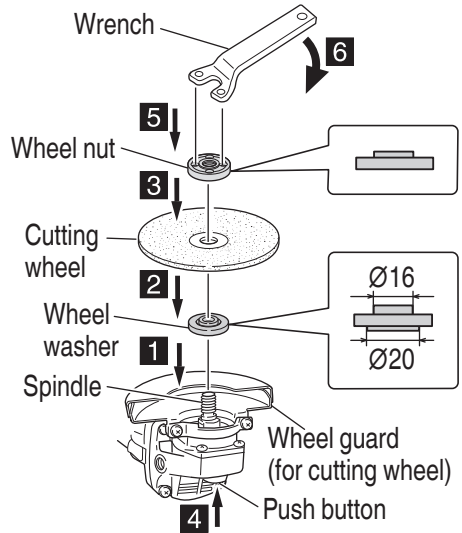

Fig. 7
ASSEMBLING AND DISASSEMBLING THE CUTTING WHEEL (Fig. 7)
1. Assembling (Fig. 7)
- (1) Turn the disc grinder upsidedown so that the spindle is facing upward.
- (2) On the spindle, place the $\text{\O}20$ wheel washer towards the spindle and then attach the cutting wheel.
- (3) From the top of the cutting wheel, place the depressed side of the wheel nut towards the cutting wheel and attach to the spindle.
- (4) Screw the wheel nut onto the spindle.
- (5) While pushing the push button with one hand, lock the spindle by turning the depressed center wheel slowly with the other hand.
- Tighten the wheel nut by using the supplied wrench as shown in Fig. 7.